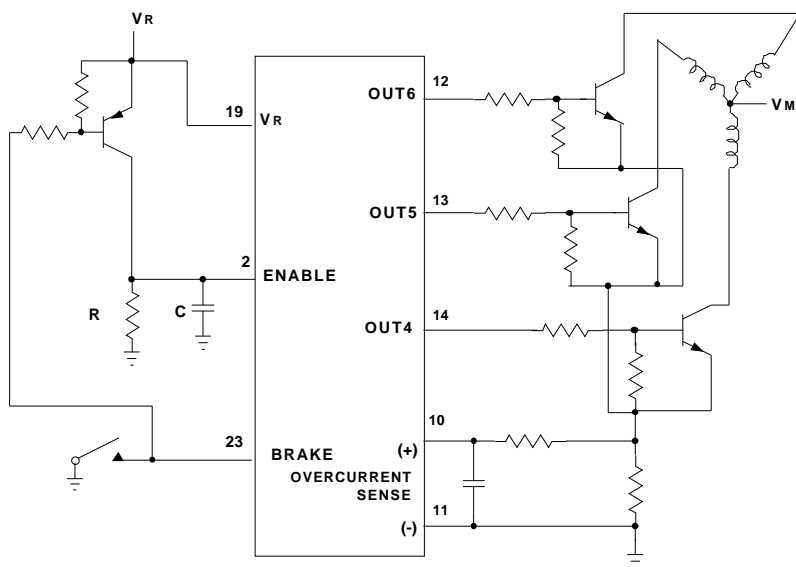
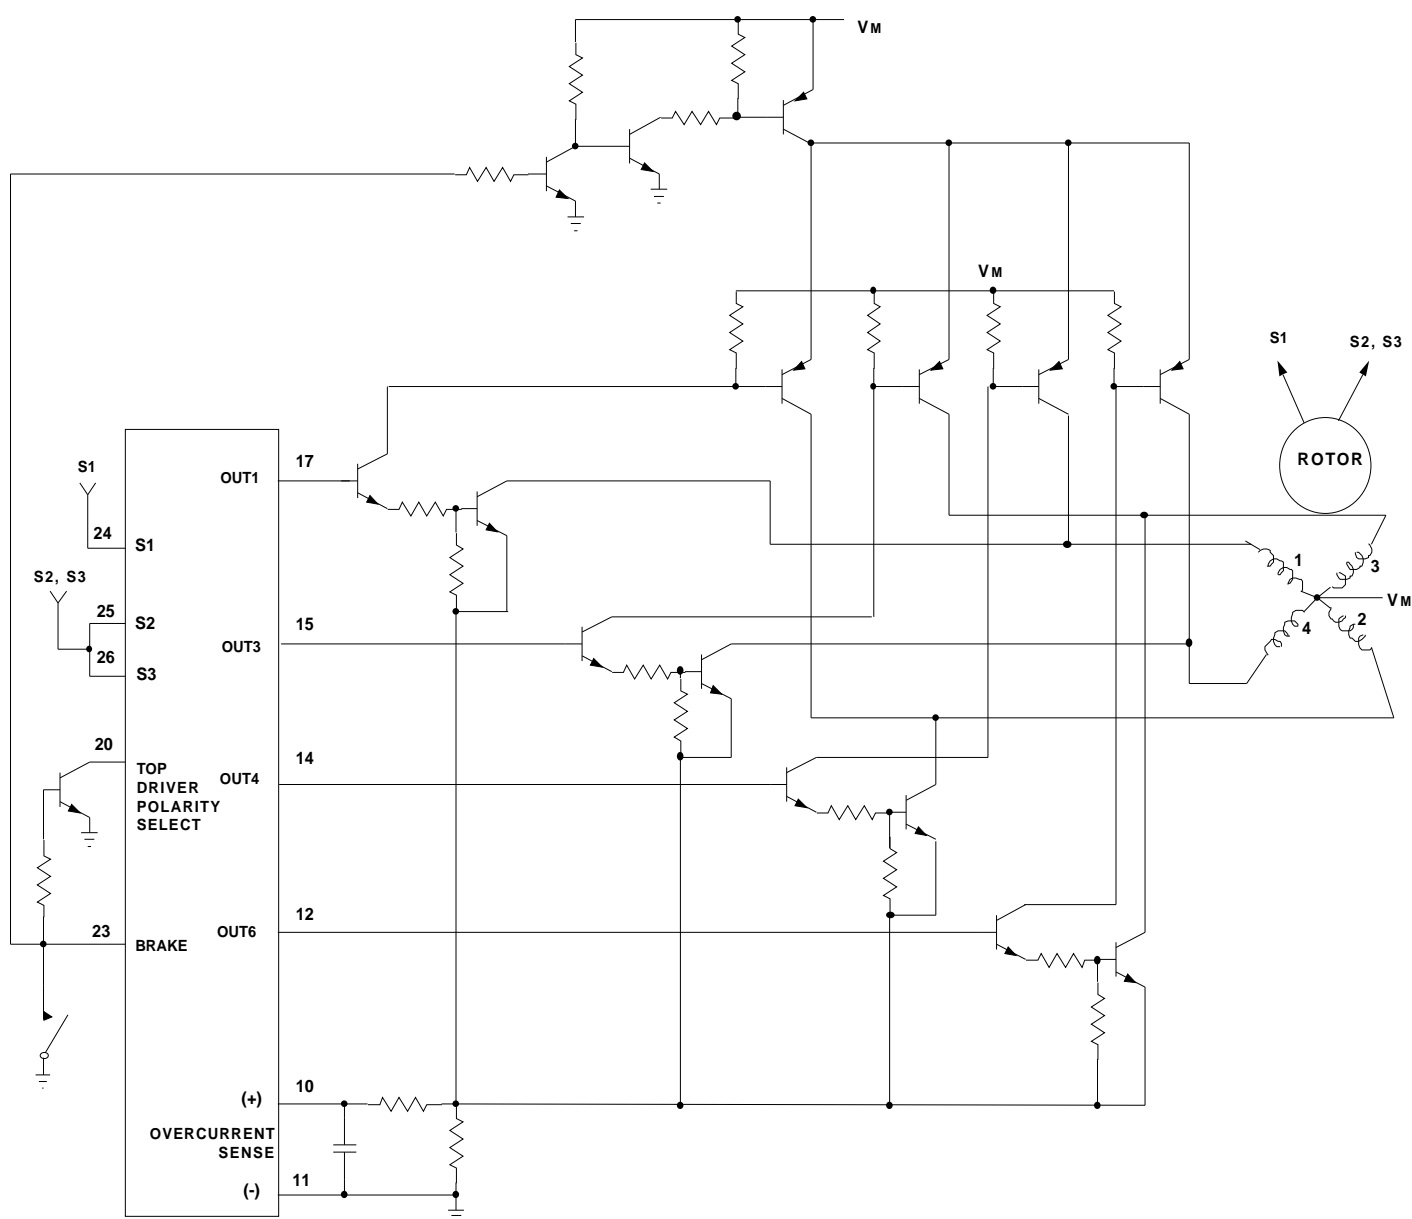
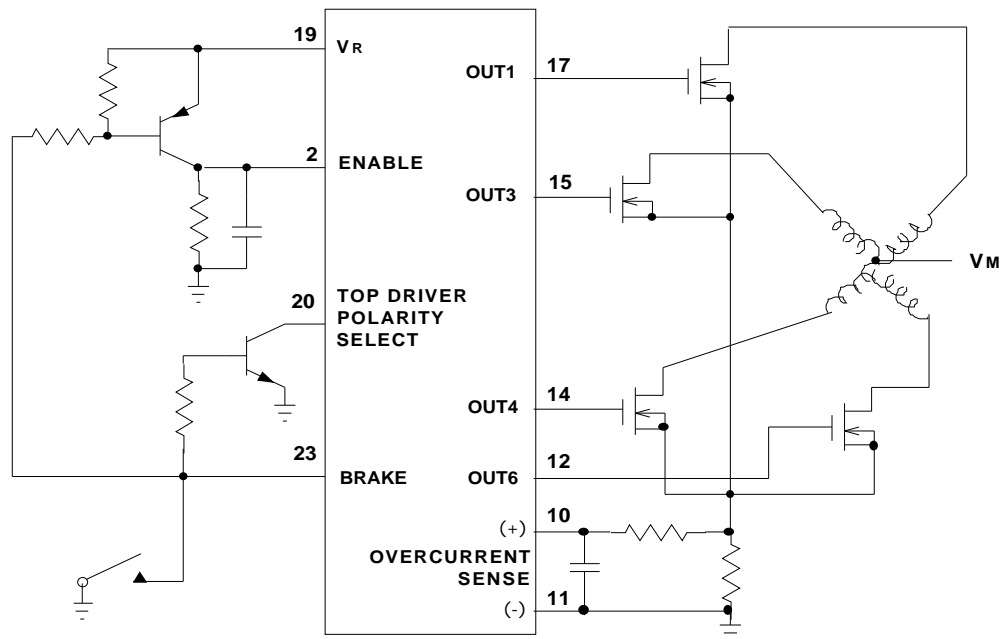

FIGURE 4. THREE-PHASE HALF-WAVE MOTOR CONTROLLER
FIGURE 6. FOUR-PHASE FULL-WAVE MOTOR CONTROLLER
FIGURE 7. FOUR-PHASE HALF-WAVE MOTOR CONTROLLER
**FIGURE 4.** This three phase half wave motor controller has no top power transistor to disconnect the windings from the power supply when the BRAKE is applied. Instead, a switching transistor is used which will permit braking for a time determined by the RC time constant. When the capacitor discharges past the ENABLE input switching point, the outputs will be turned off.
**FIGURE 6.** Four phase motor control requires only two Hall Sensor inputs spaced 90 electrical degrees apart. S1 is connected to one sensor and S2 and S3 are tied together and connected to the other sensor (Refer to Table 1). The Brake input (Pin 23) is used to control the Top Driver Polarity Select (Pin 20) and the Top Motor Drivers. When the Brake input is applied, the Top Motor drivers are turned off and the Top Driver Polarity Select is forced low turning on the Outputs 1 and 3. Since Outputs 4 and 6 are also turned on, the motor windings become shorted together.
**FIGURE 7.** This four phase half wave motor controller uses the same Brake circuit as in Figure 4 and switches the Top Driver Select from a high to a low as in Figure 6.